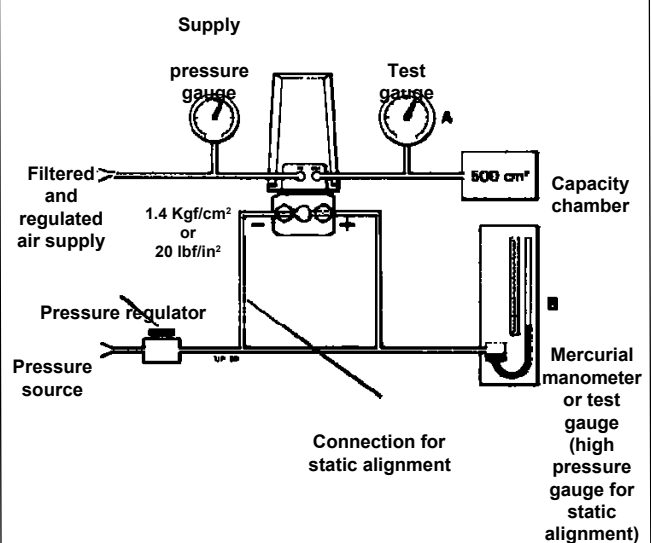

Fig. 9 - Test rig
CALIBRATION AND ACCURATE SPAN SETTING (Fig. 9)
- Connect the above equipment and transmitter as shown in fig. 9.
- a) Set up the transmitter and connect to the test rig (fig. 9). Remove the suppression spring and bracket and check calibration in accordance with "calibration and accurate span setting" sub section.
- a) Set up the transmitter, connect to the test rig (fig. 9) and check calibration as described in "calibration and accurate span setting" section. For this check the elevation bracket and spring must be removed.
- a) Connect the transmitter to the test rig (fig. 9) and remove the elevation spring and bracket from the transmitter. Calibrate in accordance with "calibration and accurate span setting" sub-section to direct output valves.
- Set up the transmitter, connect to the testing (Fig. 9) in the previous sections and disconnect the capsule as described.